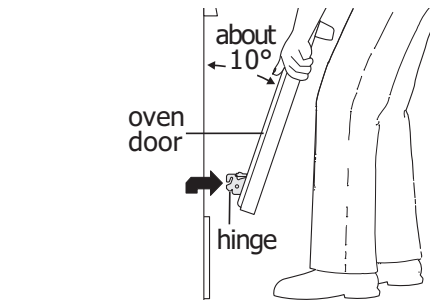
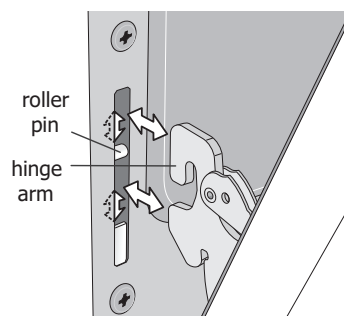

Figure 49: Holding door for removal
Figure 50: Replacement and location of hinge arm and roller pin
3. Firmly grasp both sides of oven door along the door sides. Do not use the oven door handle (See Figure 49).
5. Lift the oven door hinge arms over the roller pins located on each side of the oven frame (See Figure 49).
1. Firmly grasp both sides of oven door along the door sides. Do not use the oven door handle (See Figure 49).
2. Holding the oven door at the same angle as the removal position, seat the hook of the hinge arm over the roller pins located on each side of the oven door frame (See Figure 49 and Figure 50). The hook of the hinge arms must be fully seated onto the roller pins.